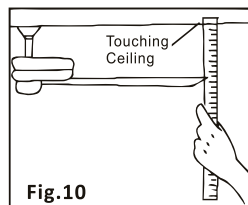

Fig.10
5. Most fan wobble problems are caused when blade levels are unequal. Check this level by selecting a point on the ceiling above the tip of one of the blades. Measure this distance as shown in Figure 10. Measurements bias should always be within 1/8". Rotate the fan until the next blade is positioned for measurement. Repeat for each blade.